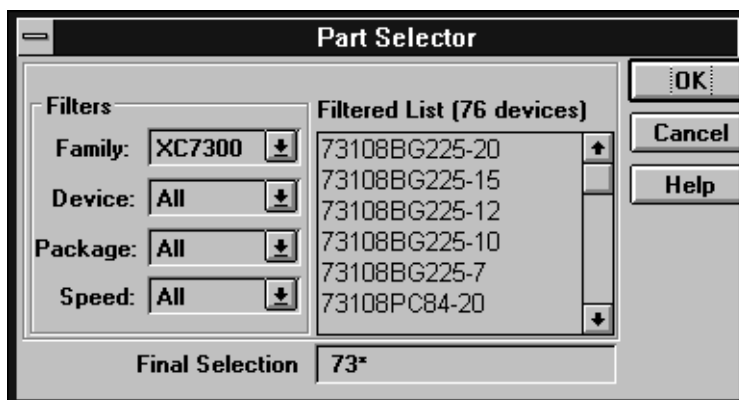

Figure 1-7 Part Selector
- If you did not specify the device type in your design source file, remove the “X” from the Read Part From Design box. Then, specify the target device type by clicking on Select Part. You will see the Part Selector window as shown in Figure 1-7.